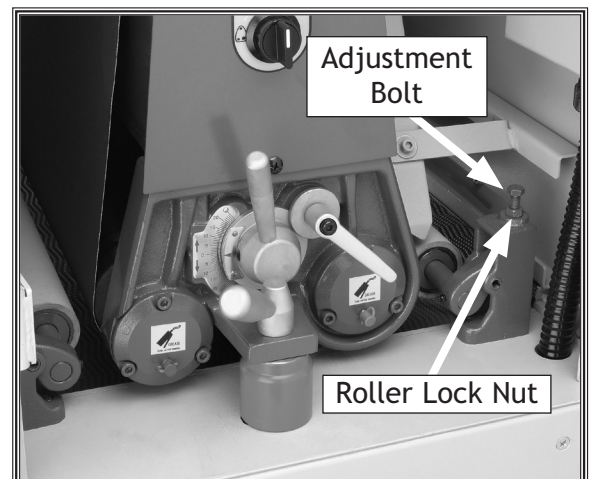

Figure 42. Infeed pressure roller adjustment location (W1756).
6. **Model W1756:** Loosen the roller lock nuts (**Figure 42**) on both ends of the infeed pressure roller. Turn the adjustment bolts (**Figure 42**) to lower the infeed pressure roller until it just touches the board. Tighten the roller lock nuts and recheck your setting.